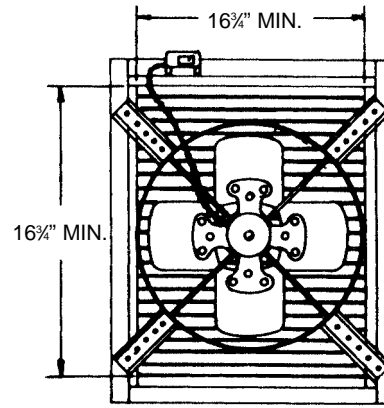

Figure 5 — Mounting to Rectangular Louvers
5. Ventilator may also be mounted on rectangular louvers as shown in Figure 5.